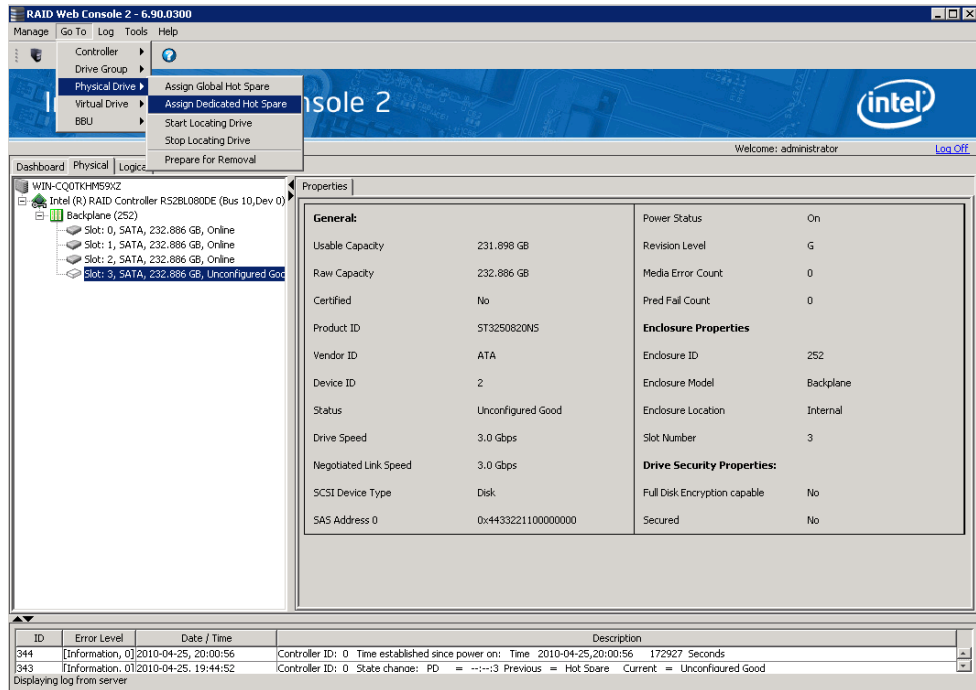

Figure 67. Assign Dedicated Hotspare
2. In the Menu, click the **Go To -> Physical Drive** tab and select **Assign Dedicated Hotspare**, as shown in Figure 67.